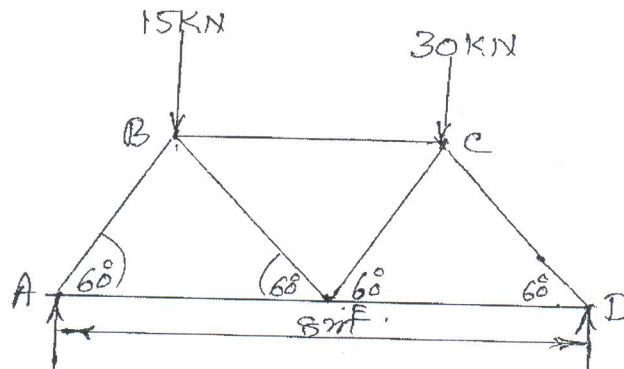

Figure: 2
8. Find graphically or analytically the magnitude and nature of the stresses in all the members of the truss shown in Figure 2. [15]